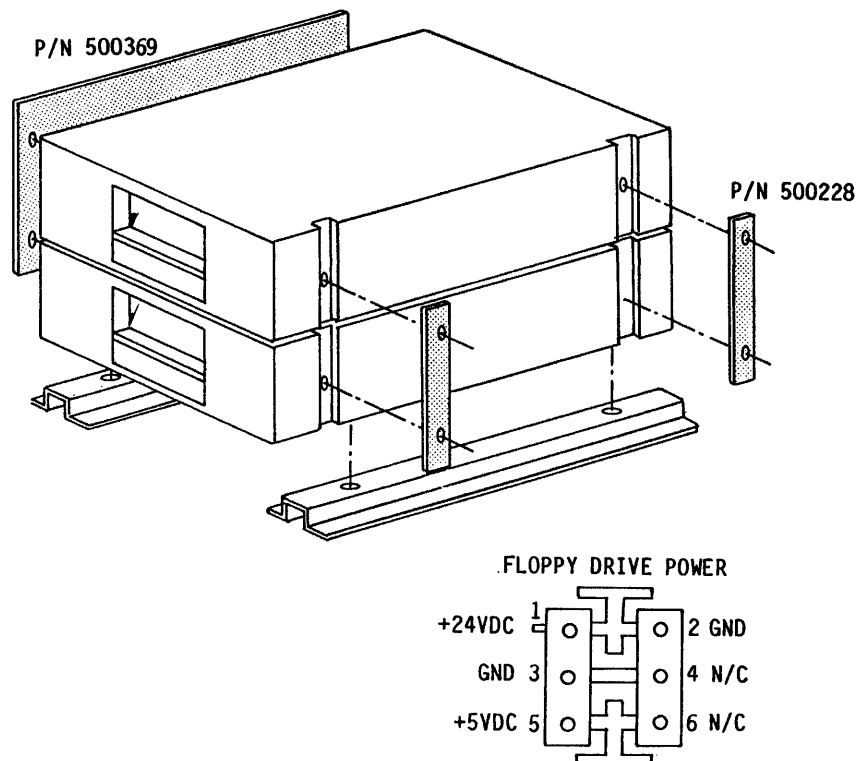

FIGURE 2-2: 8" FLOPPY DRIVE INSTALLATION
1. If dual slimline floppy drives are used, secure them together with the supplied mounting brackets using 8 (4 on each side) 8-32 x 3/8 panhead phillips screws with associated lock and flat washers (Figure 2-2).